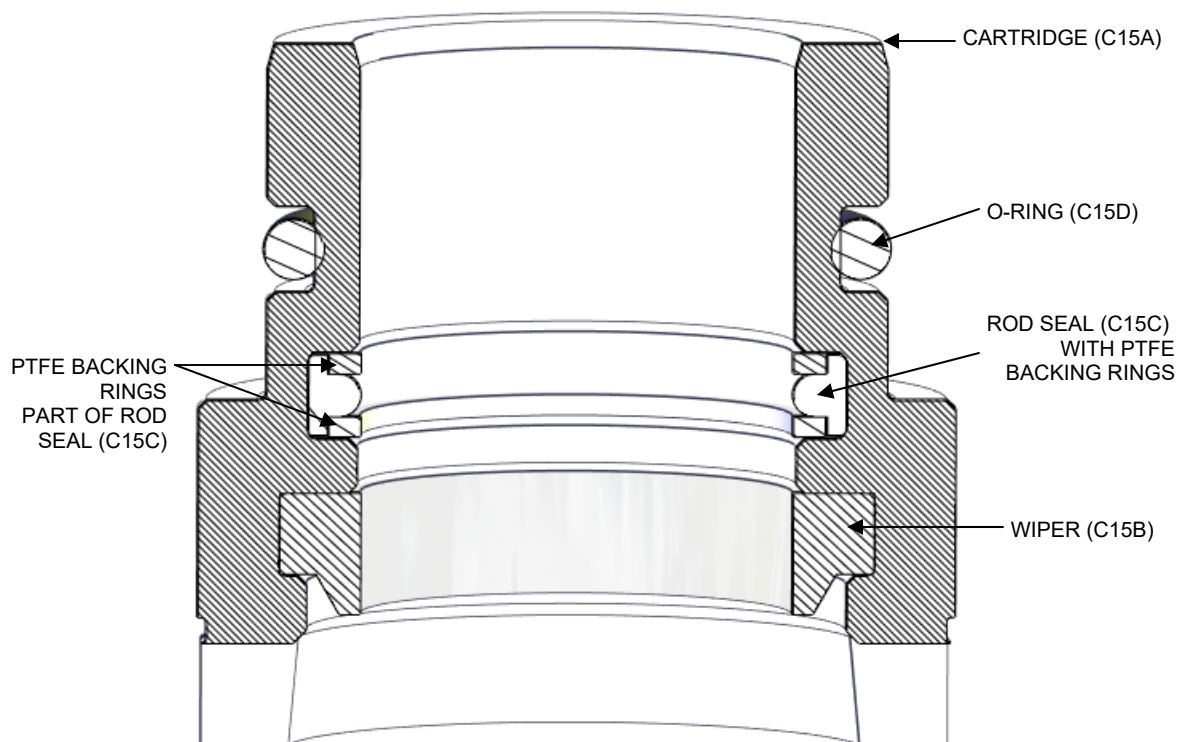

Figure 3: Cartridge Assembly (C15)
See Figure 3. The rod seal (C15C) and wiper (C15B) are installed in the cartridge, along with an o-ring (C15D).
2. Insert the rod seal (C15C) into its groove, making sure it lies flat in the groove. Insert the PTFE backing rings as shown in Figure 3. NOTE: The backing rings are cut with a bevel; make sure the beveled ends of the rings ends meet but do not overlap.